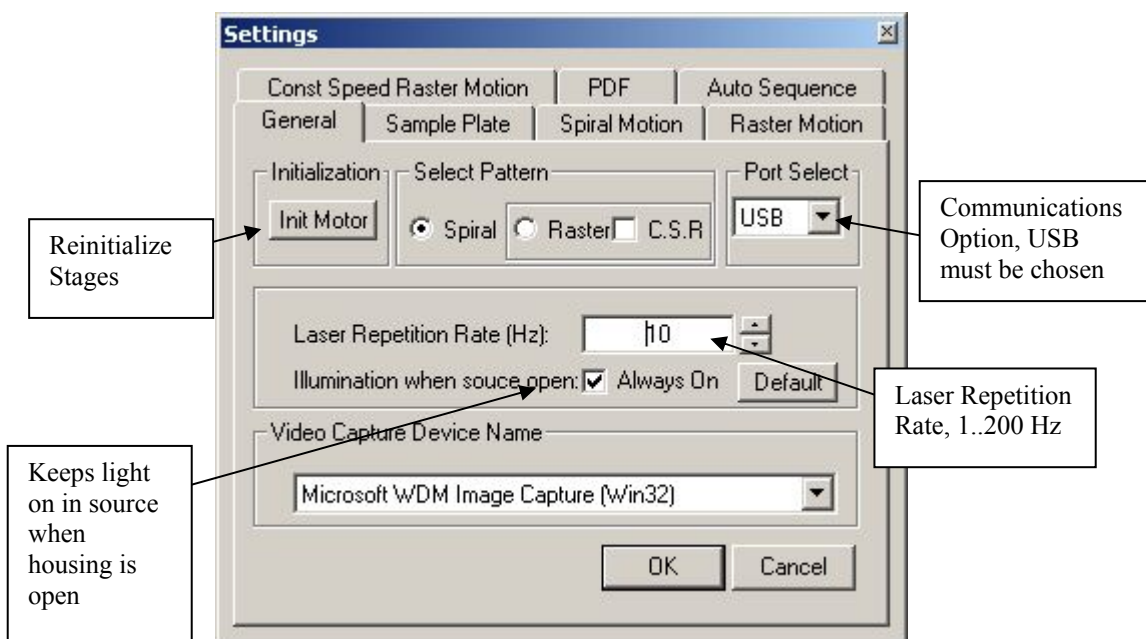
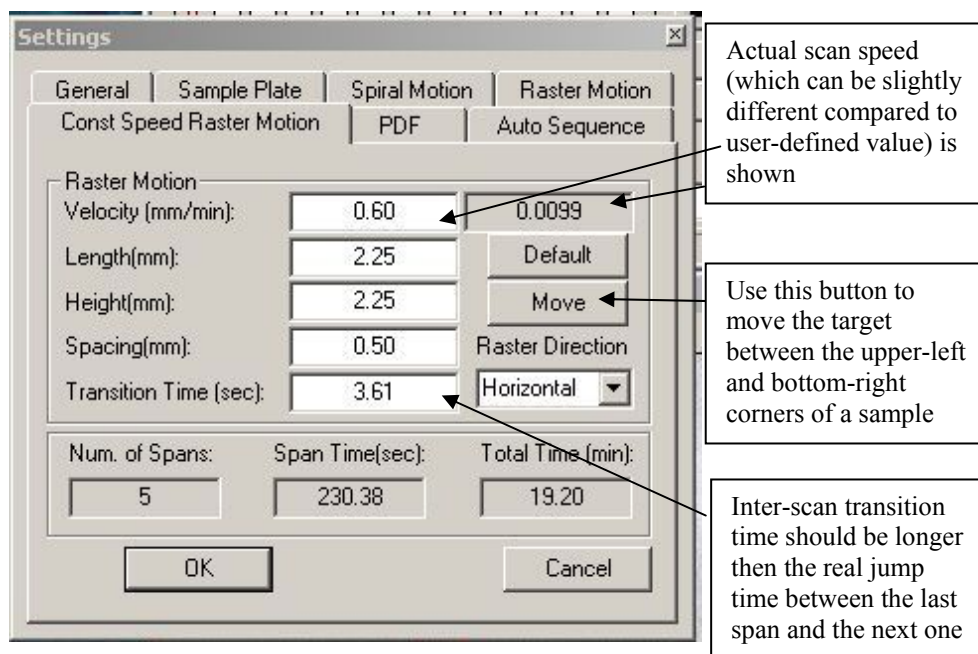
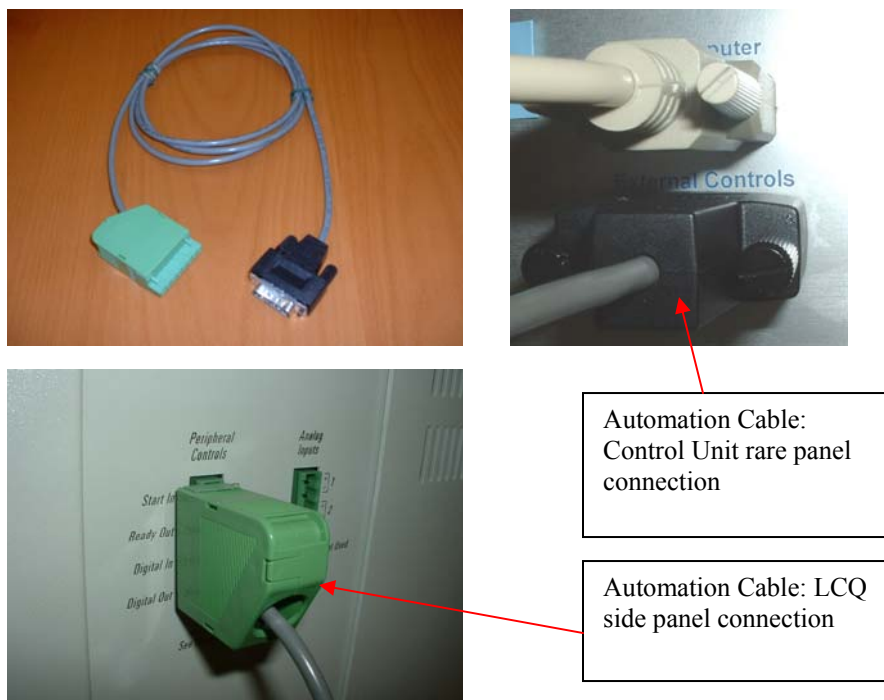

Fig. 7-13 General settings in the Target software.
Fig. 7-14. Constant Speed Raster Motion control page.
Fig. 7-22 External Control cable and its connection to the rare panel of AP/MALDI control unit and to the side panel of LCQ.
To change various program parameters like, spiral/raster motion properties, laser frequency and attenuation, AutoSequence Mode timing and so on, click the "Settings" button and edit the parameter(s) as it is shown in Figs. 7-13 to 7-18, below.
There are three different sample plate patterns that can be selected during MS data acquisition to desorb fresh regions of sample surface by laser radiation: Spiral motion (selected in Fig. 7-13) and two different Raster patterns – Raster Motion and Constant Speed Raster Motion (C.S.R. control in Fig. 7-13 checked/unchecked). The parameters of the Patterned Motion can be adjusted using the three separate pages of the Setting dialog: Spiral Motion; Raster Motion and Constant Speed Raster Motion, correspondingly. Spiral or Raster motion can be used if the acquisition of long enough MS signal is desirable (for signal accumulation, relatively weak MS/MS data recording etc.). Raster/C.S.R (Constant Speed Raster) motion is designed for special applications like recording of AP MALDI images. For MALDI imaging, smooth target plate motion with constant speed is important. Another important feature of Constant Speed Raster Motion is the possibility of precise calculation of xy -coordinates of exposed position (WHERE the spectrum was recorded) based on the time elapsed from the Motion start (“retention time”, WHEN a spectrum was recorded). This feature enables the conversion of recorded mass-chromatogram into a two-dimensional plot of a particular peak intensity distribution (MS image). In Fig. 7-14, Constant Speed Raster Motion page of Settings dialog that controls the mode is shown.
- Laser pulse energy and frequency may be easily tuned through Target software (see Fig. 7-13 and 7-17). Typically you should tune the
The second automated mode (that is called “External timing”) enables to record the spectra of a number of individual samples in separate files under separate user-defined names. Now LCQ communicates with AP/MALDI source through exchange of bi-directional “Start” and “Ready” signals. This mode of operation requires a special “External control cable” for connecting the AP/MALDI’s “External Control” connector on the Control Unit rear panel with the LCQ’s “Peripheral Controls” connector. The cable and its connection are shown in the Fig. 7-22.
The selection between the two Automation modes is implemented in the “Auto Sequence” tab of “Settings” dialog box of Target software (the dialog is activated through “Settings” menu item). It is shown in Fig. 7-22.
1. For External Timing mode, **connect** the “External Control” connector on the Control Unit’s rear panel to the LCQ “Peripheral Controls” port (Fig. 7-22).
2. **Check** the “AutoSequence” button is activated in the main *TARGET* software window (see Fig. 7-14) and **check** the “External Timing” radio button in the *TARGET*’s “Settings Dialog” window (see Fig. 7-22).
3. **Check** the “AutoSequence” button is activated in the main *TARGET* software window (see Fig. 7-14). For Internal Timing, **check** the “Internal